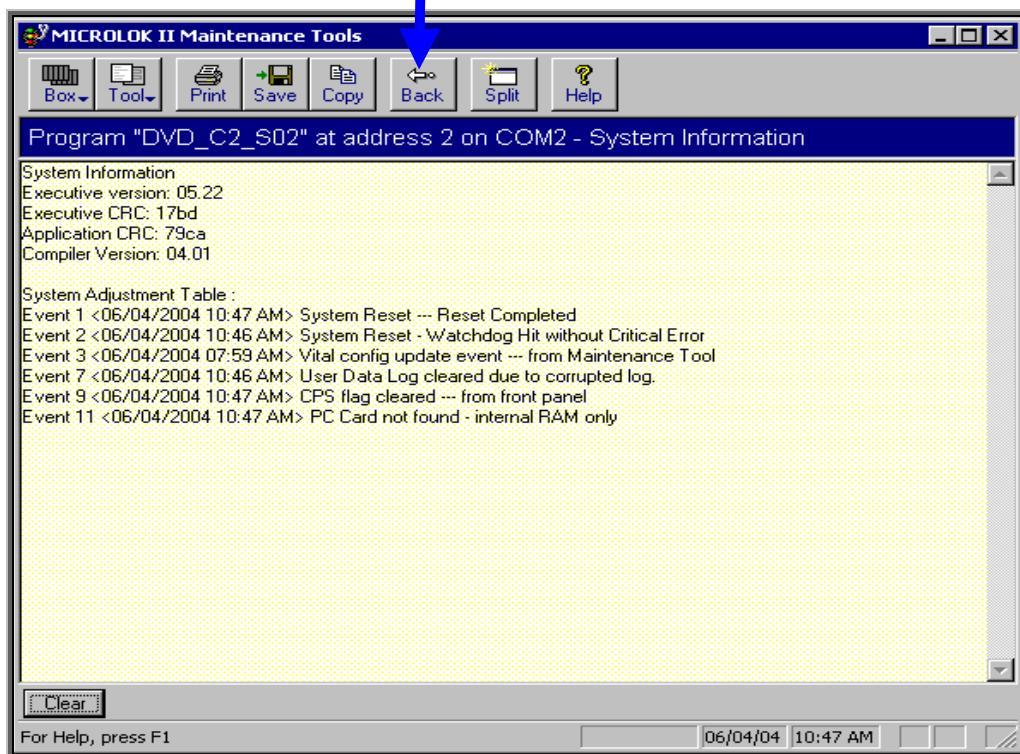

Figure-5.3.2
- ❖ A typical System Information display is shown in Figure-5.3.2.
- ❖ The window in Figure-5.3.2 displays data about an operating Microlok II and its application.